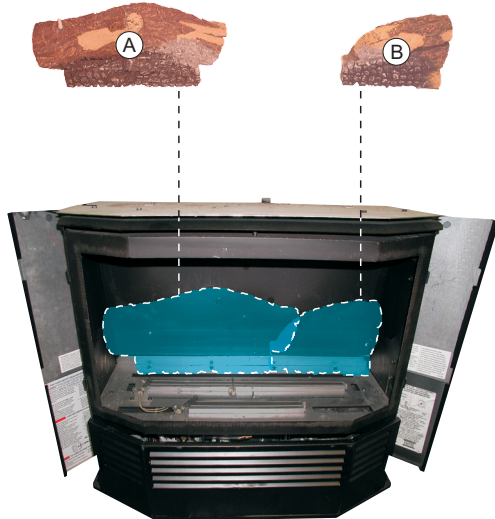

Figure 45
4. Place the Rear Right Log (B) and the Rear Left Log (A) behind the rear burner all the way against the back of the firebox. See Figure 45.
4. Visually verify the burners are free of dust and debris. See Figures 45 and 50.